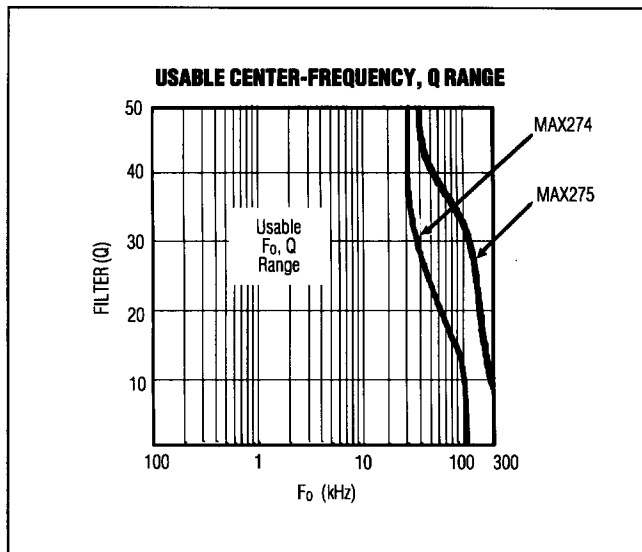

Figure 4. Usable  $F_o, Q$  Range. See *Translating  $F_o/Q$  Pairs into Hardware (Resistor Selection)*.
**1. Check all  $F_o/Q$  pairs for realizability.** The MAX274/MAX275 have limits on which  $F_o/Q$  values can be implemented. These limits are bound by finite amplifier gain-bandwidth and amplifier load drive capability (which limit the highest frequency  $F_o$ /highest  $Q_s$ ) as well as amplifier noise pickup and susceptibility to errors caused by stray capacitance (which sets a low-frequency limit on the poles). Refer to Figure 4 to be sure each  $F_o/Q$  pair is within the "realizable" portion of the graph. If filter  $Q_s$  are too high, reduce them by increasing the filter order (that is, increase the number of poles in the overall filter).
High-frequency  $F_o$ s (up to 400kHz) and high  $Q$ s outside of Figure 4's limits are also realizable, but  $F_o$  and  $Q$  will deviate significantly from the ideal. Adjust resistor values by prototyping.